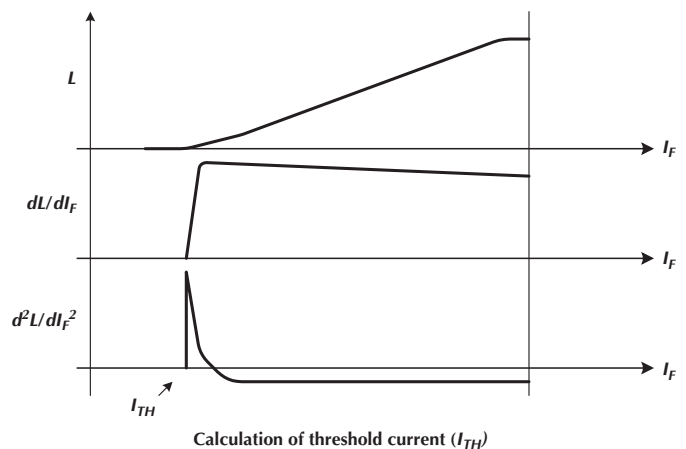

Figure 2. Graphical Calculation of Threshold Current
**Figure 2** illustrates the graphical calculation of the threshold current of a VCSEL. The top line is the light output of the VCSEL as the current is swept from zero to several tenths of an ampere. The middle line is the first derivative of the light output and shows a steep slope as the light output begins to intensify. The bottom line is the second derivative of the light output. Note